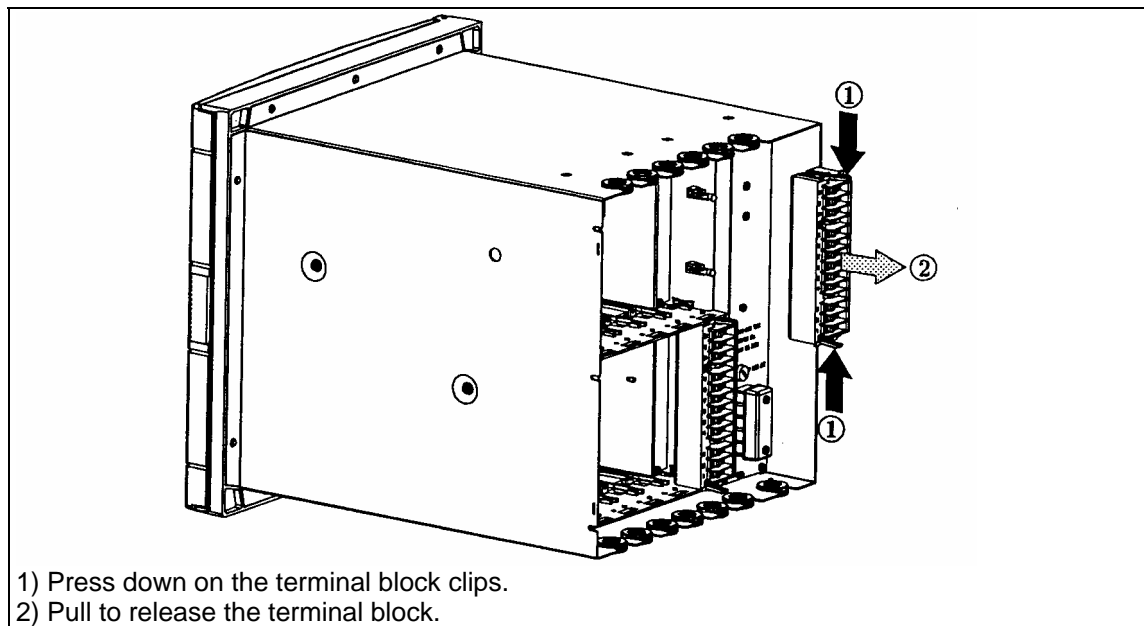

Figure 2-3
8. Remove all the terminal blocks. (See Figure 2-3)